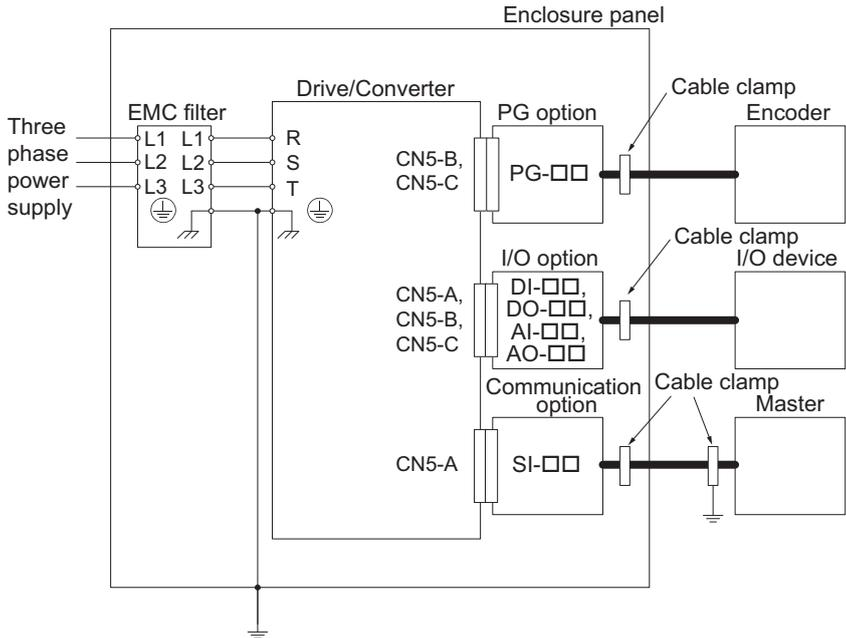

Figure 18 Option Installation for CE Compliance
2. Keep wiring as short as possible. Ground the shield according to Figure 18.